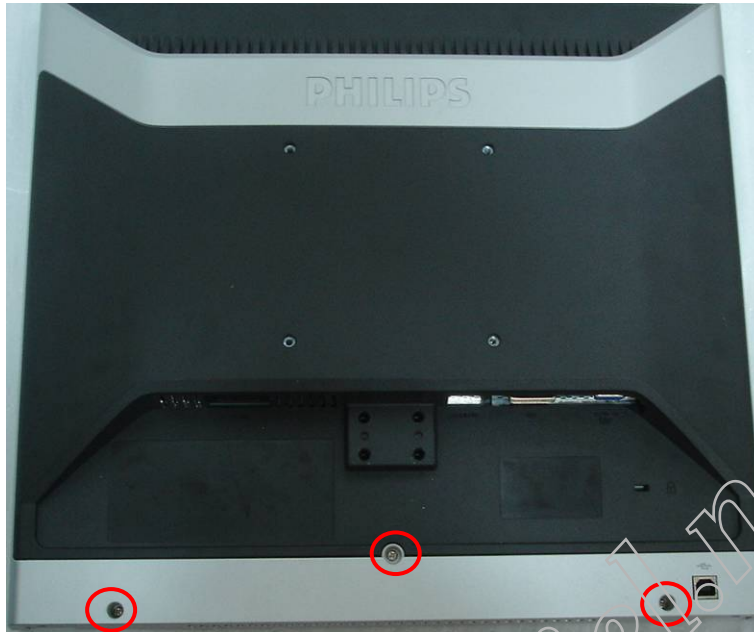

Fig.5
5. Remove back cover as Fig.5
Remove the three screws to remove the back cover as Fig.5.